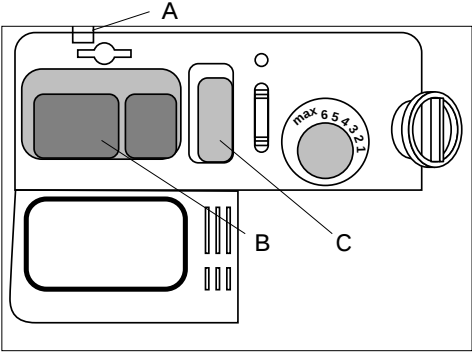

fig. 6
- In the door, next to the rinsing agent reservoir, there is also a reservoir for the detergent (see fig. 6).
- Open the lid of the reservoir by pressing button (A).
- Fill the reservoir (B) with approx. 25 grammes of detergent. Follow the detergent manufacturer's guidelines.
- If you select the "intensive" programme, please take the following steps: Fill the reservoir (B) with approximately 20 grammes of detergent, and fill the pre-wash detergent reservoir (C) with approximately 10 grammes of detergent. Close the lid.